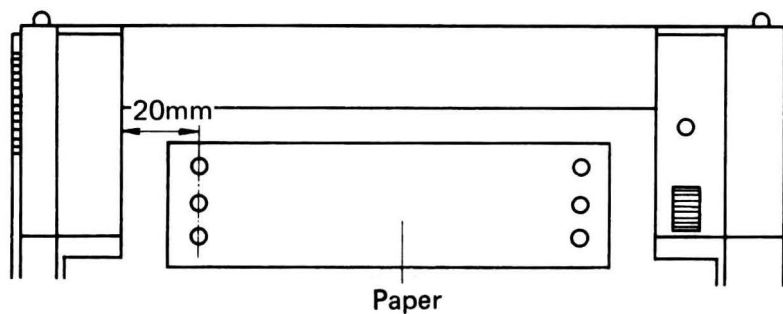

Figure 3
**NOTE:** When loading the paper into the Printer, you should set the paper at the position shown in Figure 3, leaving approximately 3/4 inch (20 mm) between the left-edge of the Printer and the center of the left sprocket holes.